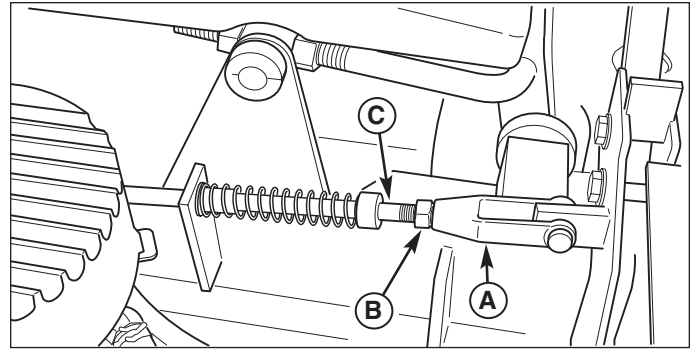

Figure 29. Neutral Spring Return Adjustment
3. Move the ground speed control levers out towards the neutral position. If the levers do not align with the notches in the neutral lock plate, it is necessary to adjust the neutral return rod (C, Figure 29).